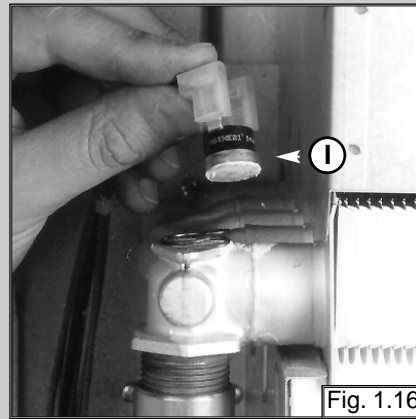

Fig. 1.16
2. Release the overheat thermostat sensor "I" (FIG. 1.16);